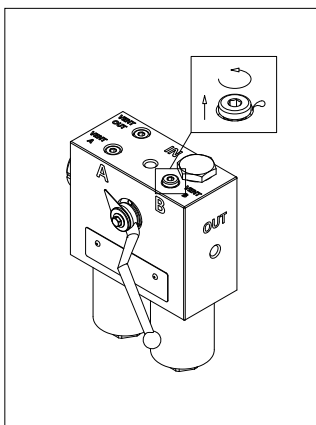

fig. 5
- (Fig. 5) Loosen the breather plug on the WASTE SIDE "Vent A" or "Vent B" by a maximum of one turn